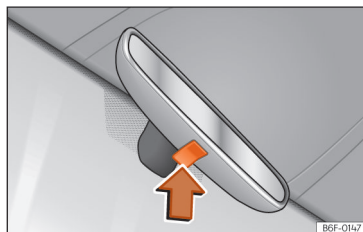

Fig. 89 Manual anti-dazzle function for rear vision mirror
- To darken the rear view mirror, press the mirror button updates >>> **Fig. 89** (arrow).